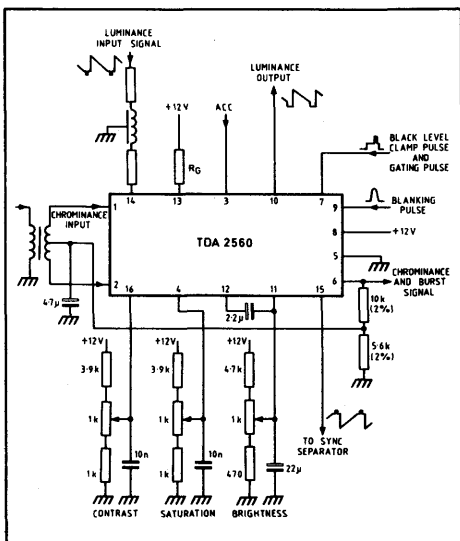

Fig. 5 Application and test circuit
Test circuit Fig. 5
- The gain of the luminance amplifier can be adjusted by setting the gain of the contrast control circuit with selection of the discrete resistor R_G (see Fig. 5). This circuit configuration has been chosen to reduce the spread of the gain to a minimum (main cause of spread is the spread of the ratio of the delay line matching resistors and the resistor R_G). At $R_G = 2.7k\Omega$ the output voltage at nominal contrast (maximum -3dB) is 3V black-to-white for an input current 0.2mA black-to-white.